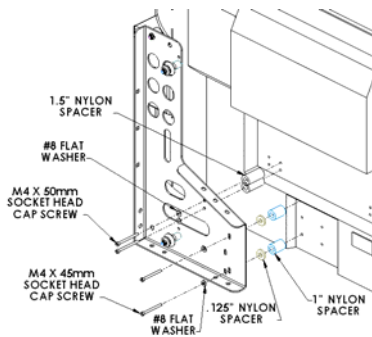
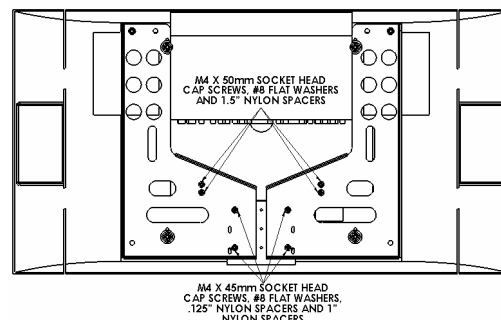

Figure 4
Figure 5
4. Using #8 flat washers, M4 screws and Nylon Spacers, secure brackets to display. Make sure to use the 50mm screws for the upper holes and the 45mm screws for the lower holes (See Figure 4 & Figure 5). Route speaker wires through holes on sides of each bracket.